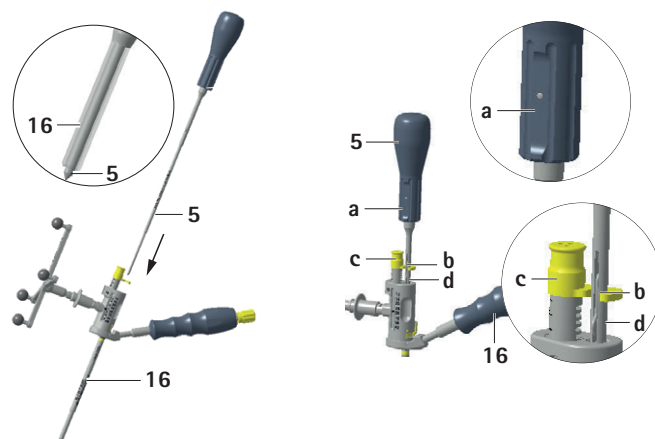

Fig. 2
- ▶ Introduce the MIS obturator **5** (SZ144R) into the MIS universal drill guide **16** (SZ143R). Check that the tip of the obturator **5** protrudes out of the guide, as shown on the left side of the image, see Fig. 2.
- ▶ Remove the obturator **5** while holding the MIS universal drill guide **16**, thereby maintaining its trajectory. Before removing the obturator **5** align the flattened section **a** of the obturator handle with the opening **b** of the depth stop **c** on the drill guide **16**, as shown on the right side of the image, see Fig. 2. This ensures that the spring **d** on the shaft of the obturator **5** does not collide with the depth stop **c** of the drill guide **16**.